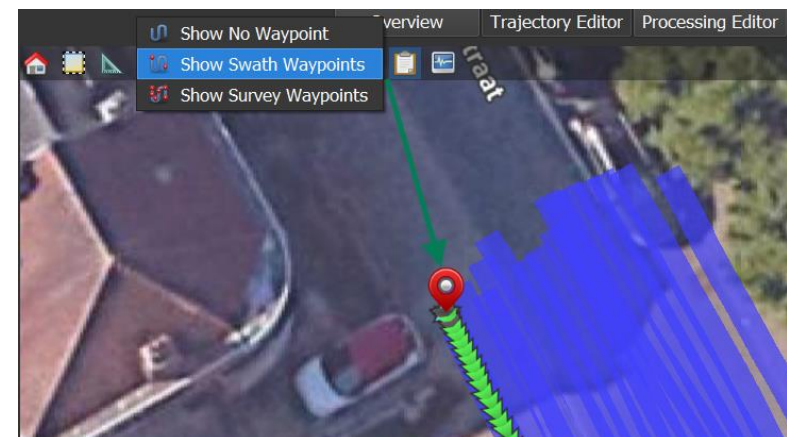

Fig. 50 Show Swath waypoints
2. Select **"Show Swath Waypoints"** to visualize one single swath trajectory waypoints (Fig. 50),